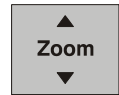

Figure 2.39
- Hold the key down to see the effect –arrows in the display indicate the direction of the zoom (**Figure 2.39**).